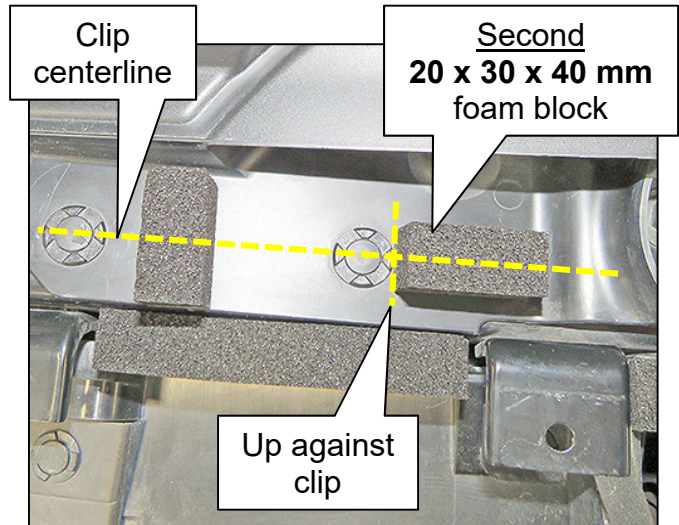

Figure 13
- it is up against the clip that retains Air Duct 1 as shown in Figure 13,
- is aligned with the centerline of both of the clips that retain Air Duct 1 as shown in Figure 13.